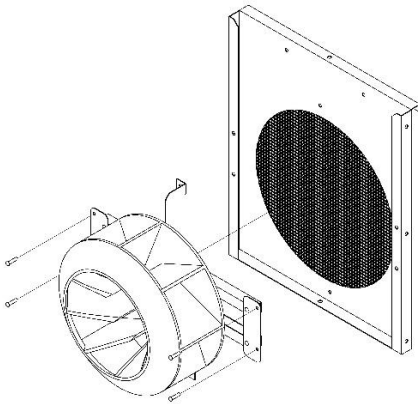

Figure 21
6.) Place outlet grille face down on a work surface and remove (4) screws holding motor bracket in place using an Allen wrench. See Figure 21.
10.) Set outlet grille on a work surface face down. Attach motor bracket assembly to outlet grille with (4) screws. Use an Allen wrench to tighten screws. See Figure 21.